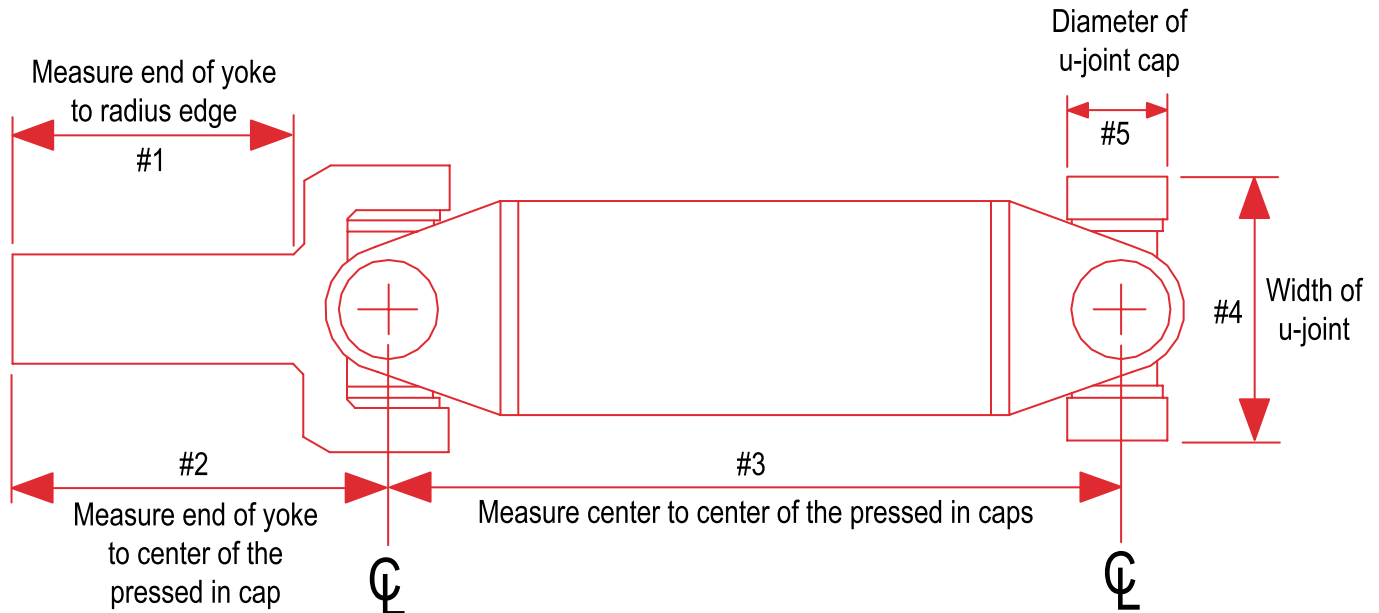

Fig 1
radius edge of the barrel as shown in Fig 1
u-joint cap center as shown in Fig 1
center of the u-joint cap as shown in Fig 1
- #4 What is the measurement of the width of the u-joint as shown in Fig 1 \_\_\_\_\_ Inches
- #5 What is the measurement of the u-joint cap diameter as shown in Fig 1 \_\_\_\_\_ Inches